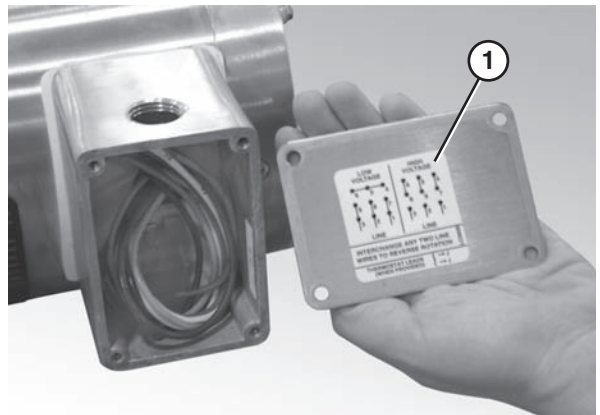

Figure 20
2. Refer to the wiring diagram (Figure 20, item 1) on the inside of the junction box cover.